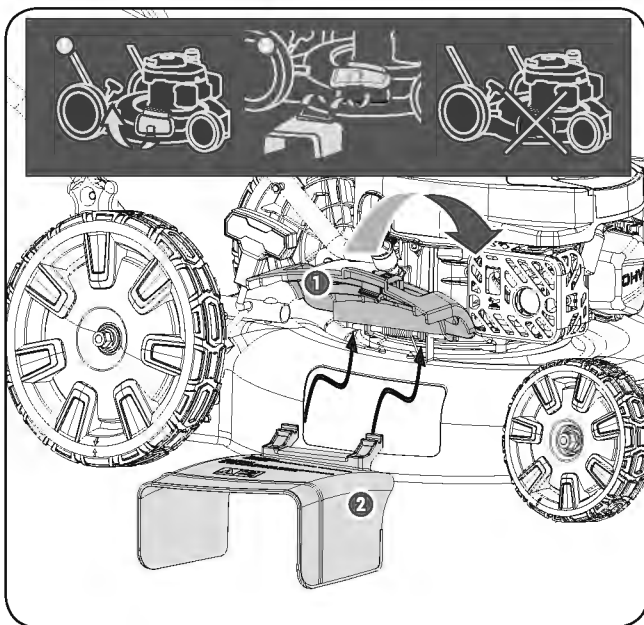

Figure 7
1. Lift the mulch cover on the side of the mower. (See **Figure 7 illustration 1**)
2. Slide the two hooks of the side discharge cover under hinge pin on mulch cover assembly. Lower the mulch cover. (See **Figure 7, illustration 2**)